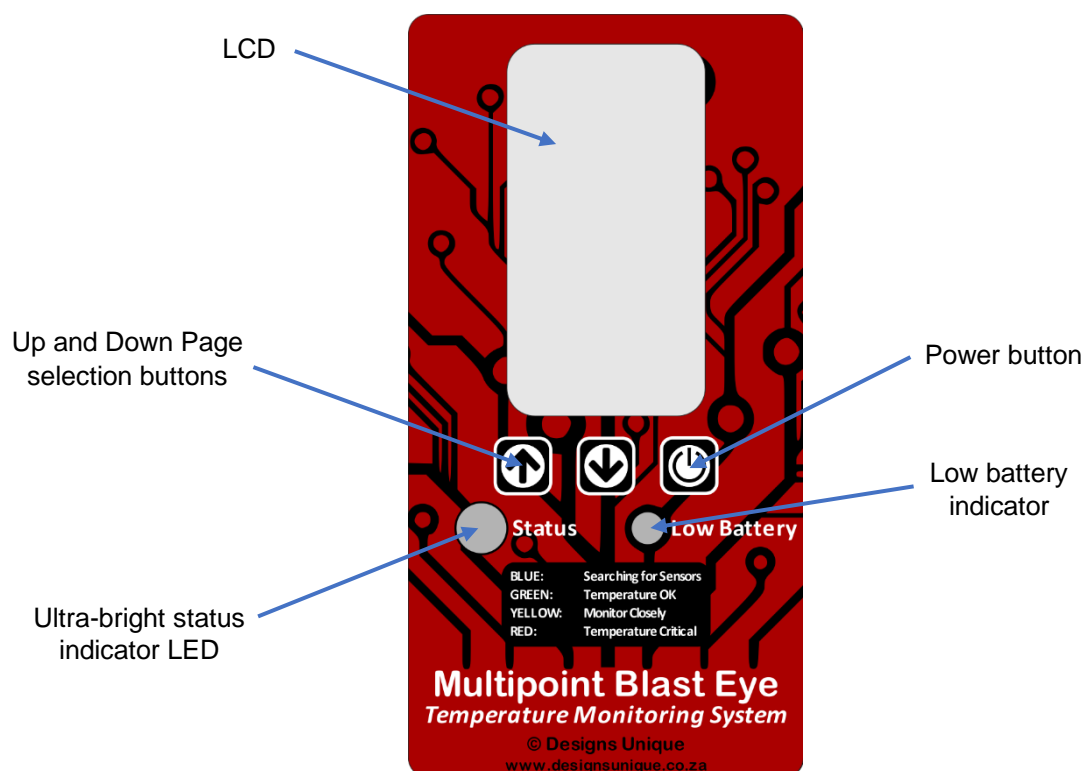

Figure 1 - The Front decal of the Reader Unit
2. Turn the device **ON** by pressing and holding the *Power* button (see *Figure 1*) for approximately 4 seconds. The unit will beep, it will display a title page, and then flash **RED**, **GREEN**, and then **BLUE**. If the power button is released before all three colours have been seen, the unit will turn **OFF** again. This is to prevent the unit from being turned on if accidentally bumped.
5. Every ten seconds, the display will automatically switch between three different screens (outlined in the *Display Information* section below). The display page can also be user selected by using the *Up* or *Down* arrow buttons (see *Figure 1*). This can be configured if required, see the *Device Settings* section.
The LCD display allows the unit to display a host of information to the user. Below is a description of the contents of each screen. The user can step through the different screens, when the unit is on, by using the *Up* and *Down* arrow buttons (see *Figure 1*).